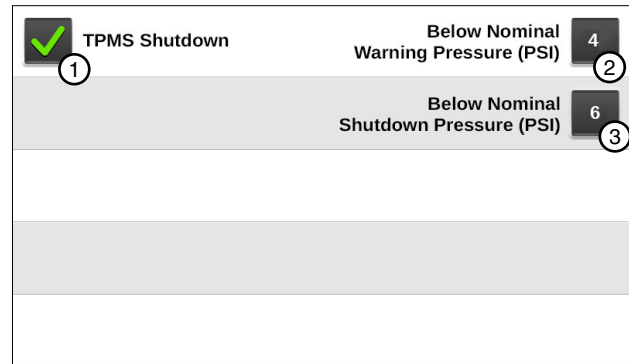

Figure 84-1 TPMS Constants Screen
The TPMS Constants screen is used to set the following constants. Refer to Figure 84-1:
The system can be set to shut down if tire pressure falls below a set amount. Figure 84-1
2. Using the numeric keypad, enter the pressure value for the pressure drop warning. Refer to Figure 84-1.